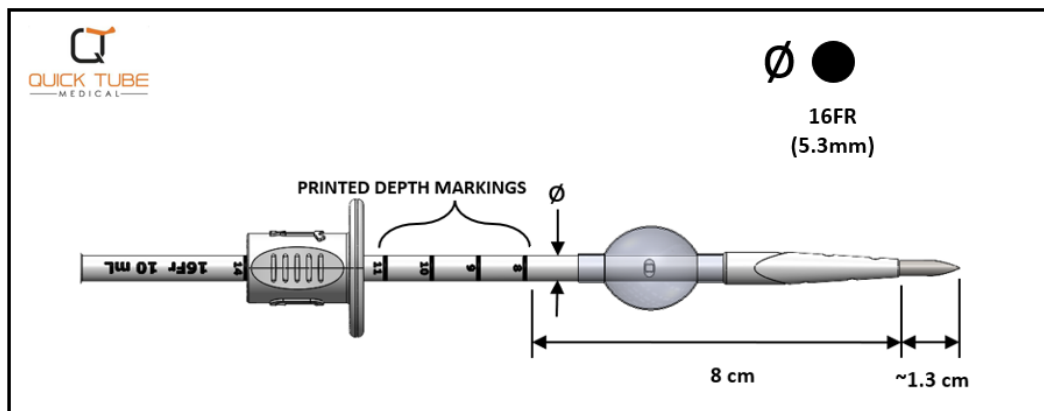

Figure 2: QT Chest Tube Dimensions (Not to Scale)
The QT Chest Tube is available in 16FR. Physicians should ensure the size of the device is appropriate for the specific procedure and patient. Printed graduation marks (7), measured in centimeters, indicate distance as measured from the distal tip of the chest tube (8) (see Figure 2.)
3. Attach one (1) of the included (10 mL, not shown) syringes to the Aspiration Syringe Port ⑨ located in the Introducer Handle/Needle ①.
4. Remove the plastic needle tip protector (not shown) to expose the sharp, beveled needle tip ②.
6. The Depth Markings on the chest tube (per Figure 2) can be utilized to assist in controlling and confirming insertion depth.
9. While gripping the hub of the chest tube with one hand, rotate the Introducer Handle ① counter-clockwise with the opposite hand to disengage the Introducer Handle ① from the Luer fitting ⑩.
10. Withdraw the Introducer Handle/Needle ① until the needle fully exits the chest tube. NOTE: A small amount of resistance upon rotation or withdrawal is expected. If significant resistance is felt during rotation or withdrawal, release the introducer handle to relax any tension or torque on the needle, rotate the needle in the opposite direction (being sure not to re-engage with the luer on the proximal end of the catheter), confirm the needle rotates freely inside the catheter, then withdraw.
11. Fill the second (10 mL) syringe with 10 mL of air. Firmly attach this air-filled syringe to the Inflation Valve ⑪ and inflate the Subcutaneous Balloon ④ with 10 mL of air. While maintaining pressure on the plunger of the syringe, quickly remove the syringe from the inflation valve. Gently pull back on the chest tube to confirm that the balloon is holding the chest tube in place within the pleural cavity.
13. Pinch the contoured, ribbed sides of the Locking Stabilizer ⑤ to unlock it. Position the Locking Stabilizer firmly against the petrolatum gauze and release the Locking Stabilizer to secure the chest tube in place.
14. Position the One-Way Valve Assembly ⑥ in-line with the chest tube and secure the parts together by connecting the Male/Male Luer Connector ⑬ to the Luer Fitting ⑩.
15. The Stepped Connector ⑫ may then be connected to a commercially available water seal suction apparatus or similar suction device, if desired.